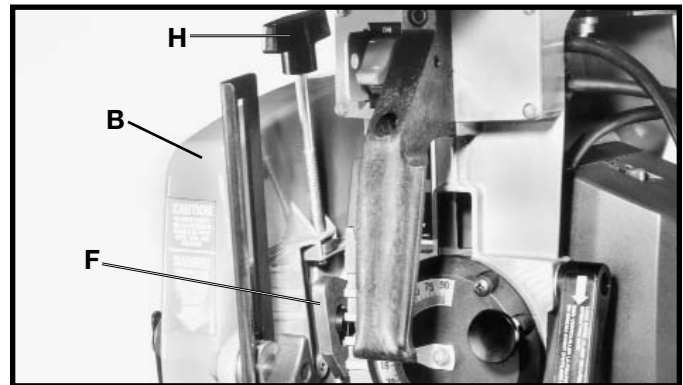

Fig. 46
5. Lift cam (F) Fig. 46, and assemble blade guard (B) onto cutting-head assembly. **NOTE: MAKE CERTAIN TONGUE ON GUARD SEATS INTO GROOVE OF CUTTING-HEAD.**
7. Rotate blade guard (B) Fig. 46, to the horizontal position and tighten clamp knob (H). **IMPORTANT: CLAMP KNOB (H) FIG. 46, MUST BE TIGHT AND BLADE GUARD SECURE DURING OPERATION.**